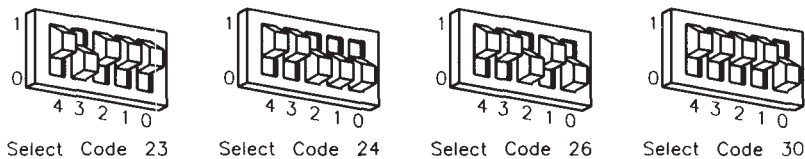

Figure 5-9.
- b. Set these switches to one of the four select codes given in Figure 5-9, unless you have used them elsewhere. Refer to the installation note that came with the interface if you need additional switch settings.